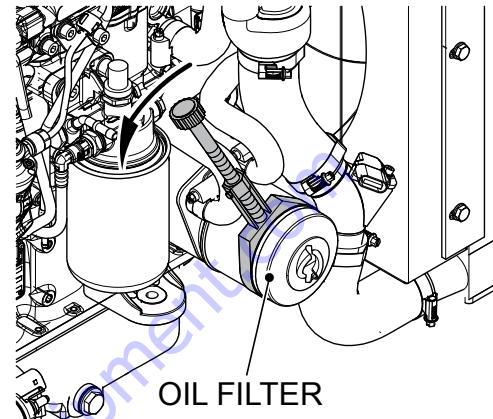

Figure 38. Removing Oil Filter
1. Loosen the oil filter (Figure 38) with a strap wrench or similar tool and unscrew it.